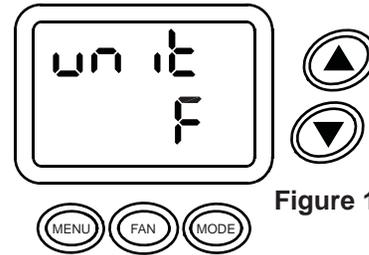

Figure 1
2. **PRESS** the FAN button to continue. The display will appear as shown (Figure 1).